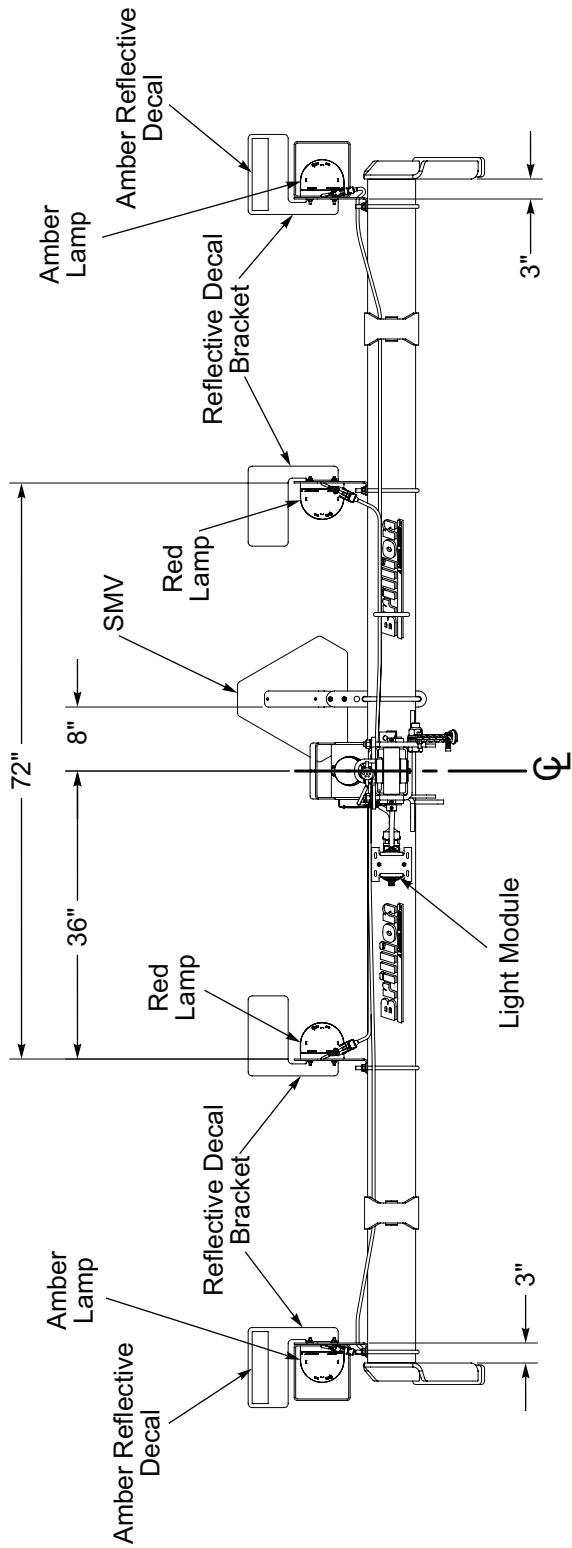

Figure 2-23: Pulverizer with No Lift: LED Mounting Dimensions
2. Install the inner Light Mount Brackets approximately 36" from center line using 1/2-13 U-Bolts and Locknuts. **See Figure 2-23.**